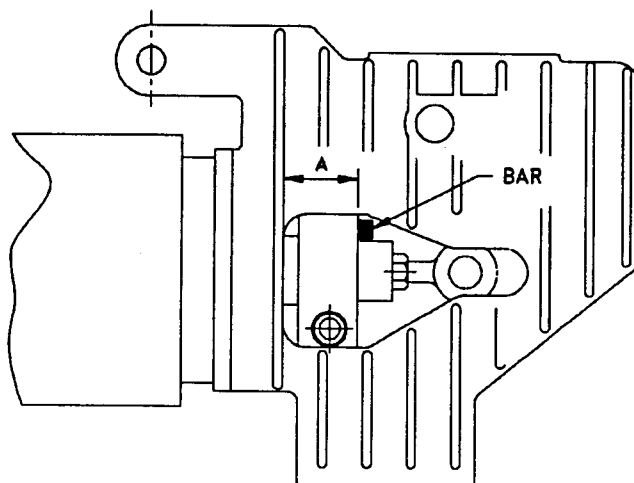

Figure 27 -- Vacuum Interrupter Stroke Check
Appendix F -- Vacuum Interrupter Stroke Check (Figure 27)
2. Hold a straight, rectangular bar against the face of the shunt clamp as shown in Figure 27 so that the bar extends out through the window in the side of the polehead.